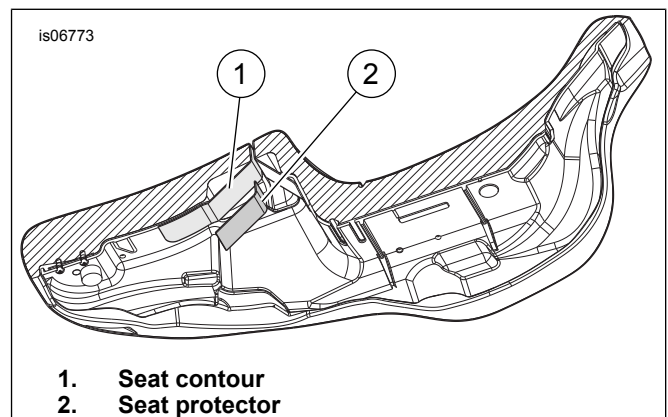

Figure 4. Underside of Seat
13. See Figure 4. Take note of the shape of the surface the seat protector (2) will cover and gently shape the protector to better fit the seat contours (1).